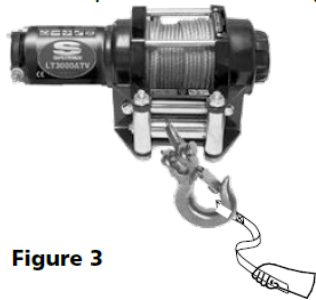

Figure 3
8. KEEP CLEAR OF WINCH, TAUT WIRE ROPE AND HOOK WHEN OPERATING WINCH. Never put your finger through the hook. If your finger should become trapped in the hook, you could lose your finger. ALWAYS USE THE HANDSAVER when guiding the wire rope in or out See Figure 3.